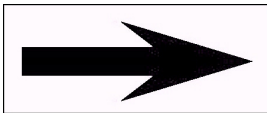

fig. 9
- Start the engine to verify that the rotation direction corresponds to the arrow applied to it (see fig. 9). If required, intervene following the indications reported in Chap. 6.